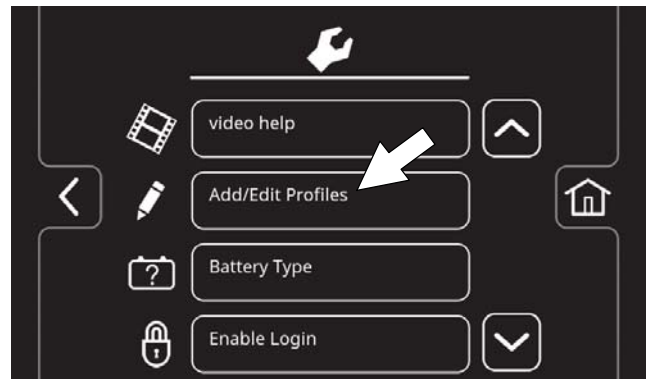

FIG. 161
- Press the Add/Edit Profiles button to enter a new user profile (Figure 161).